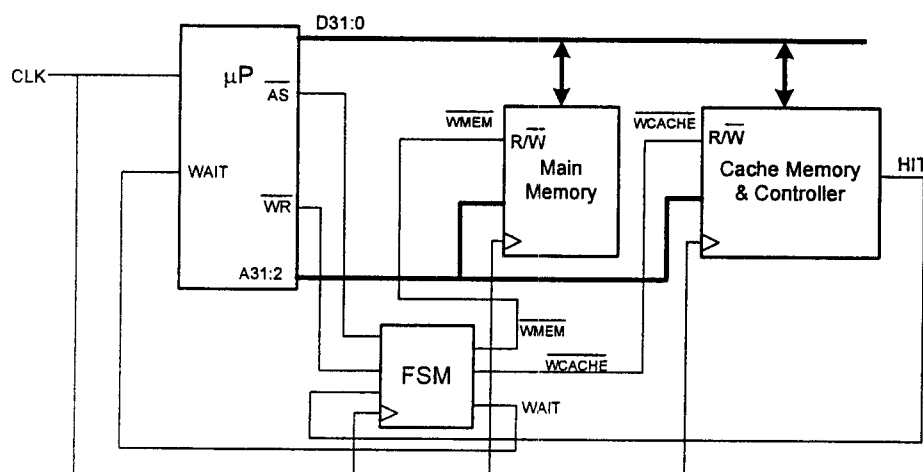

Figure 4.1
4. In a 32-bit microprocessor system shown in *Figure 4.1*, a fast cache memory is used to increase the effective speed of the main memory. The operation of the microprocessor and the memory interface circuit is controlled by the clock signal CLK . *Figure 4.2* shows the timing diagram during three different types of memory accesses.